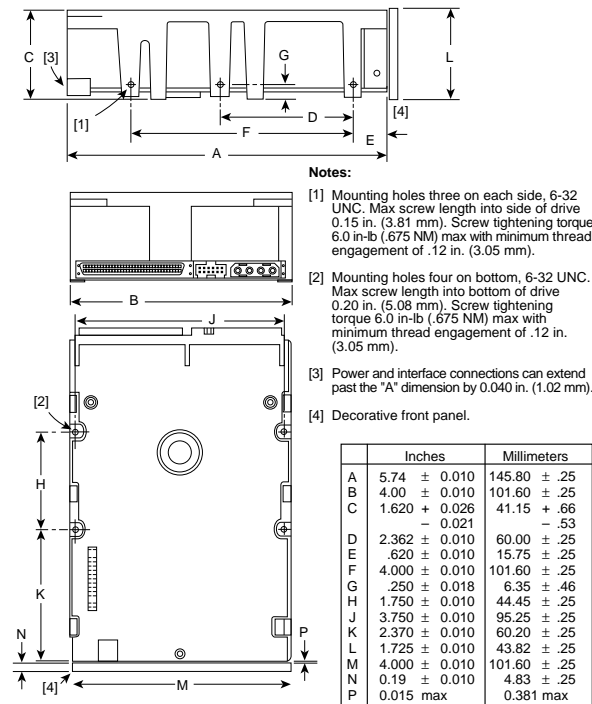

Figure 4. Hawk 4 family ST15230W/WD model drive mounting dimensions (68 pin SCSI I/O connector)
- See notes on Figures 4 and 5 pertaining to proper drive installation.